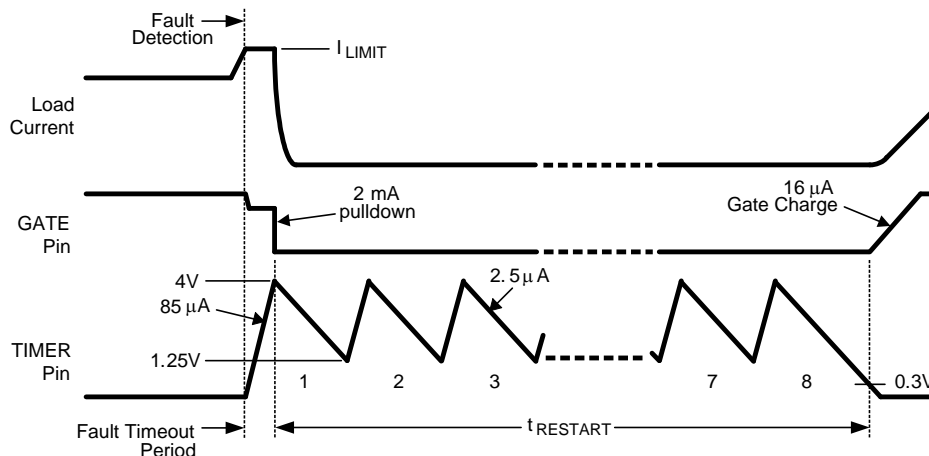

Figure 8. Restart Sequence (LM5069-2)
When the current limit or power limit threshold is reached during turn-on or as a result of a fault condition, the gate-to-source voltage of Q1 is modulated to regulate the load current and power dissipation. When either limiting function is activated, an 85  $\mu$ A fault timer current source charges the external capacitor ( $C_T$ ) at the TIMER pin as shown in Figure 8 (Fault Timeout Period). If the fault condition subsides during the Fault Timeout Period before the TIMER pin reaches 4.0V, the LM5069 returns to the normal operating mode and  $C_T$  is discharged by the 2.5  $\mu$ A current sink. If the TIMER pin reaches 4.0V during the Fault Timeout Period, Q1 is switched off by a 2 mA pull-down current at the GATE pin. The subsequent restart procedure then depends on which version of the LM5069 is in use.
The LM5069-2 provides an automatic restart sequence which consists of the TIMER pin cycling between 4.0V and 1.25V seven times after the Fault Timeout Period, as shown in Figure 8. The period of each cycle is determined by the 85  $\mu$ A charging current, and the 2.5  $\mu$ A discharge current, and the value of the capacitor  $C_T$ . When the TIMER pin reaches 0.3V during the eighth high-to-low ramp, the 16  $\mu$ A current source at the GATE pin turns on Q1. If the fault condition is still present, the Fault Timeout Period and the restart cycle repeat.
**C) Restart Timing** For the LM5069-2, after the Fault Timeout Period described above,  $C_T$  is discharged by the 2.5  $\mu A$  current sink to 1.25V. The TIMER pin then cycles through seven additional charge/discharge cycles between 1.25V and 4.0V as shown in Figure 8. The restart time ends when the TIMER pin voltage reaches 0.3V during the final high-to-low ramp. The restart time, after the Fault Timeout Period, is equal to: